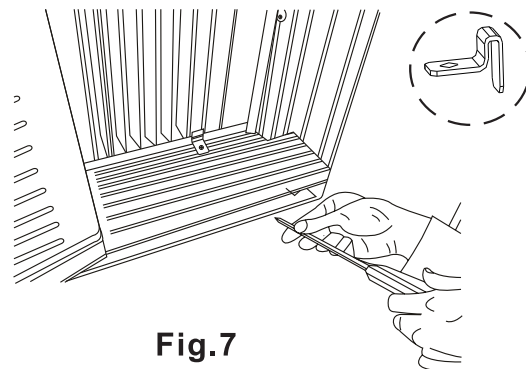

Fig.7
A. Place the frame lock between the frame extensions and the window sill as shown(Fig.7). Drive 3 / 4 " (19mm) or 1 / 2 " (12.7mm) locking screws through the frame lock and into the sill .